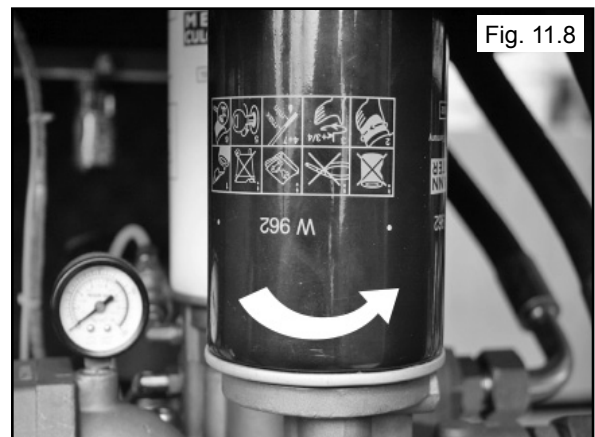

Fig. 11.8
2. Using an Oil Filter wrench if necessary, unscrew the Oil Filter counter clock wise. (See Fig. 11.8)
3. Open the Drain Ball Valve and drain used oil into an approved container and dispose of in accordance with local regulations. (See Fig. 11.8)